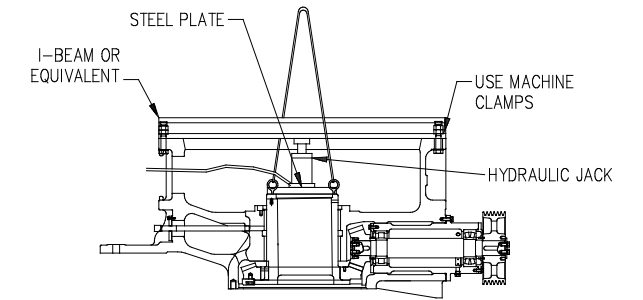

Fig. 6.8.7
13. Where the eccentric sleeve does not lower; under its own weight, strike eccentric sleeve from above with a heavy mallet, lowering, the crane a little at a time. In the case when the outer bushing has seized due to burning and the eccentric sleeve cannot be lowered by the procedure used above, press it out from above with a hydraulic jack and a beam while lowering the crane to compensate. A sling of a sufficient length must be used so as not to interfere with the beam. (Fig. 6.8.7)